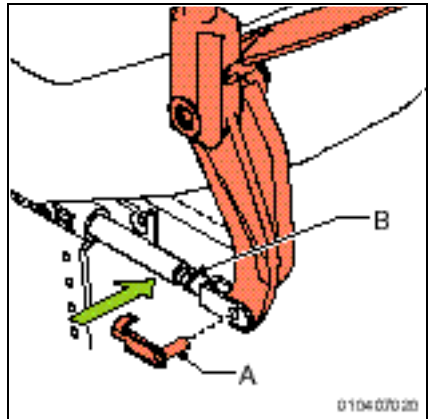

Figure 33
1. Release the circlip (A) from the adjustment bar (B) (figure 33).